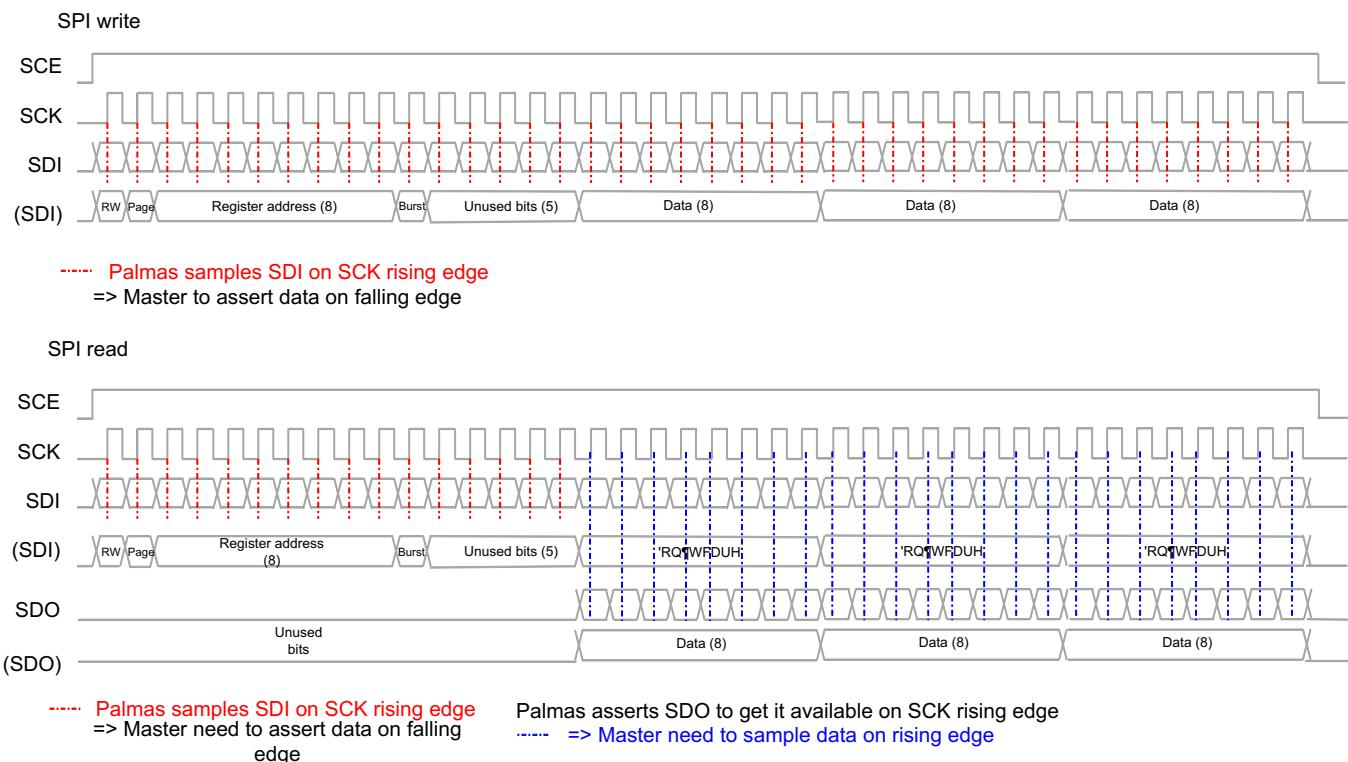

Figure 6-16. SPI Burst Read and Write Access
- This consists of fetching and storing several data at contiguous locations. The protocol is depicted in Figure 6-16.